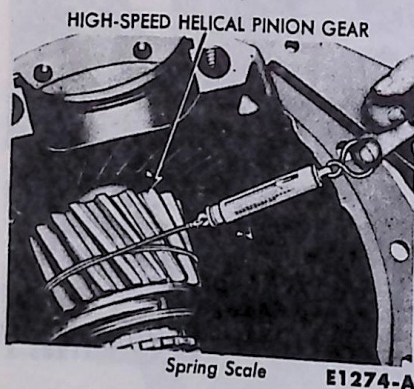

FIG. 39 Checking Cross Shaft Bearing Pre-Load
6. Rotate the cross shaft several times to be sure that the bearing contact is normal. Then check the cross shaft bearing preload as shown in Fig. 39. Do not read the pull required to start the cross shaft